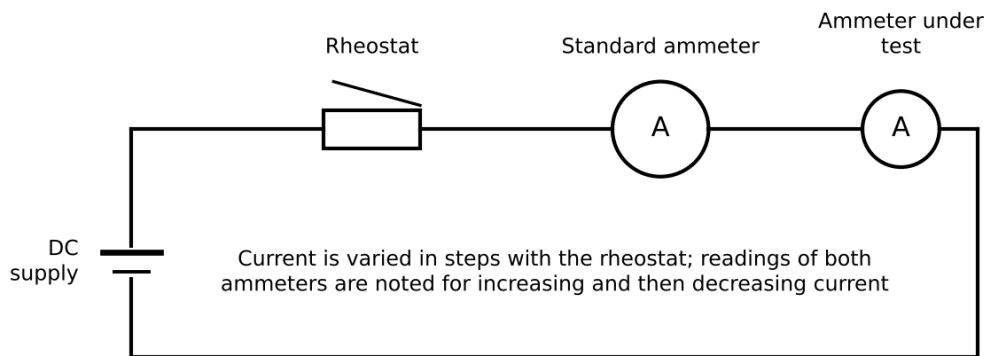

Fig. 1.9 Calibration of an ammeter by direct comparison
4. **Connect** the instrument under test and the standard so that both receive the same input (for an ammeter, in series; for a voltmeter, in parallel), as in Fig. 1.9.
Direct comparison	The instrument is compared with a standard instrument of the same type, both receiving the same input (Fig. 1.9).